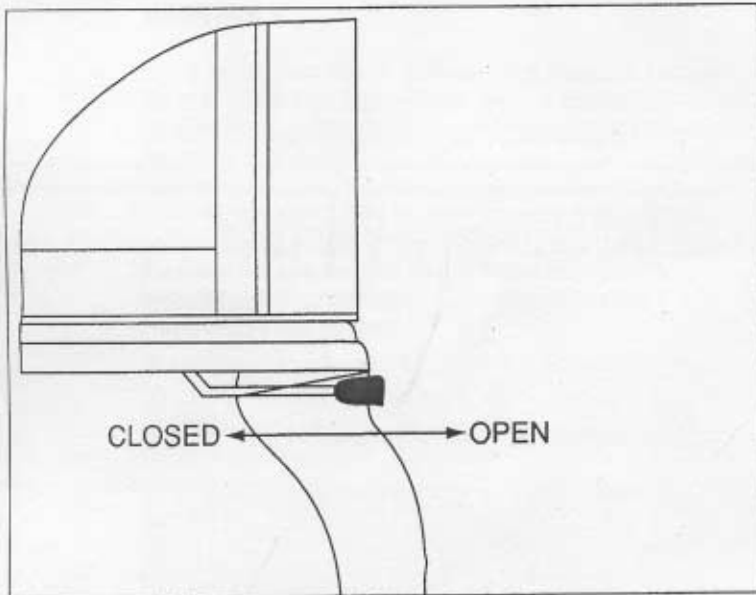

Figure 18
6. Remove the air inlet control retainer plate located on the lower right front side of the unit. Rotate the air control rod to the horizontal position and slide to the full right position. Re-install the air inlet control retainer plate and attach the air inlet control knob. See Figure 18.